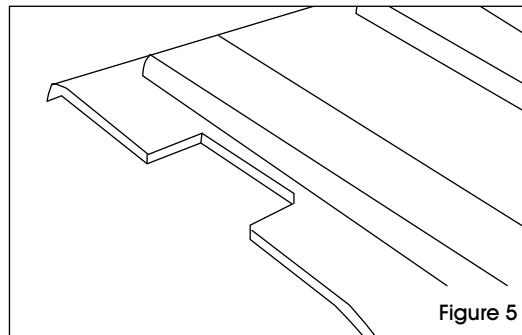

Figure 5
9. The shape of the lid should allow it to fit inside all four brackets, but it might be necessary to cut small notches out of the lid for it to fit properly. (See Figure 5)